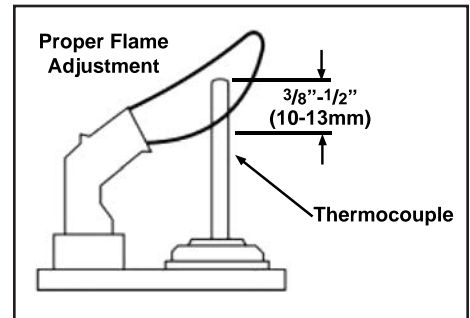

Figure 36: Proper Pilot Flame.
The pilot flow adjustment is set to maximum at the factory and should not need to be adjusted. The pilot flame should envelope $\frac{3}{8}$ " to $\frac{1}{2}$ " (10 to 13mm) of the thermocouple (see Figure 36). However, should the need arise, follow Steps 1- 2 below.
1. The adjustment screw can be reached through the front of the unit using a 10 inch long blade head screw driver (see Figure 36 for location on valve).